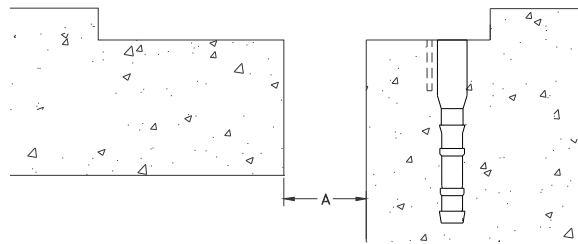

Figure 7
STEP 14. Remove the pad and the fire barrier and/or the water barrier, if present, from the blockout, and if drop-in anchors are provided, using the adhesive provided by the factory, insert the drop-in anchors into the anchor holes drilled in Step 14 (see Figure 7). Ensure that the drop-in anchor adhesive is applied in accordance with the adhesive manufacturer's written instructions. For installations not containing fire barrier or water barrier, proceed directly to Step 18.